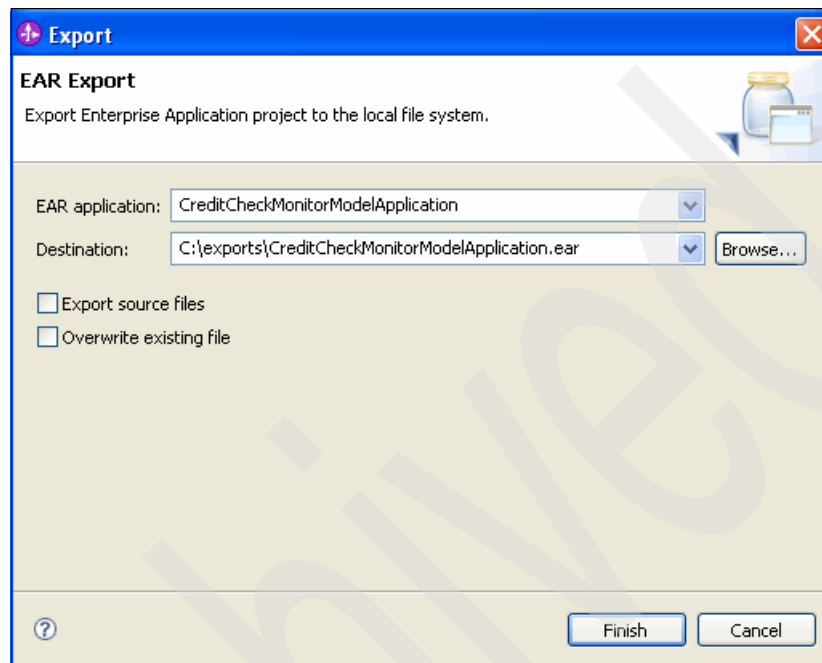

Figure 10-80 Export window
5. In the Export window (Figure 10-80), for Destination, choose the location for the exported EAR file. For this example, we use the **c:\exports** directory. Click **Finish** to complete the export.